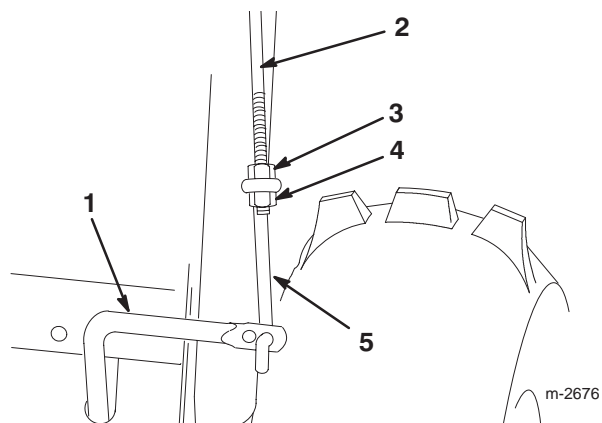

Figure 10
1. Thread a flange nut (flange side down) onto the upper control rod located on the right side of the handle assembly (Fig. 10).
2. Install the lower link through the outer hole in the lower control rod as shown in Figure 10.
3. Insert the upper control rod through the loop in the lower link (Fig. 10).
4. Thread a flange locknut (flange side up) onto the bottom of the upper control rod below the loop in the lower link (Fig. 10).
7. Adjust the flange nut and the flange locknut (Fig. 10), if necessary, to obtain the proper dimension between the top of the handgrip and the bottom of the auger/impeller drive control lever.